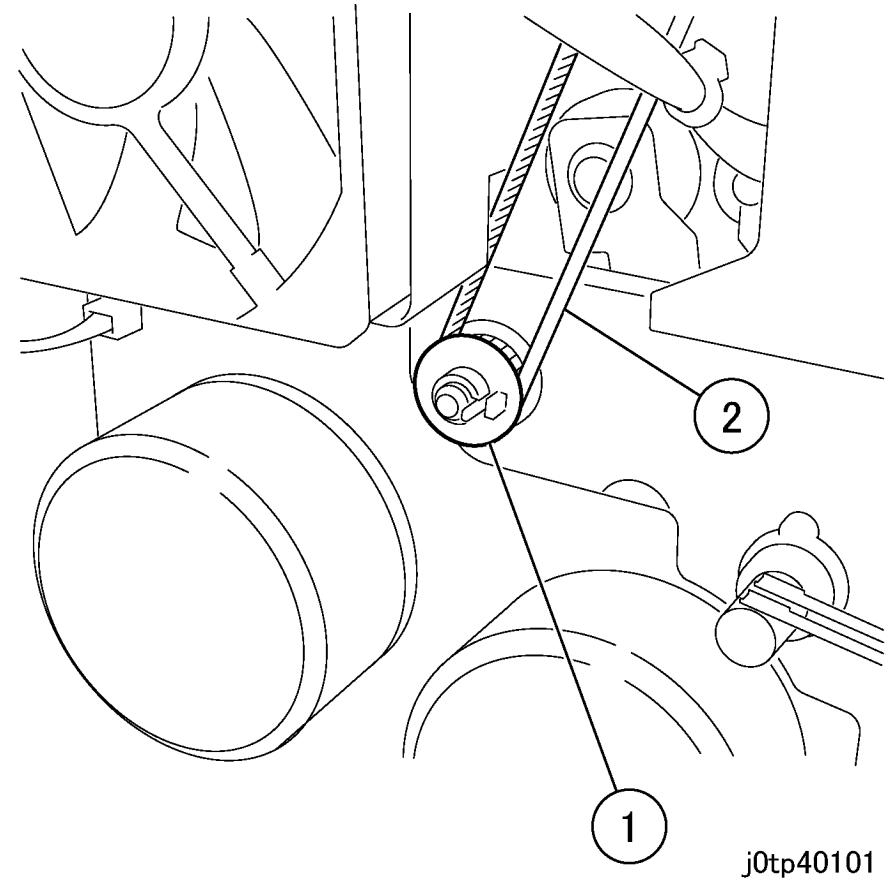

Figure 3 Disconnecting the belt and connector (j0tp40101)
5. Disconnect the belt and connector. (Figure 3)